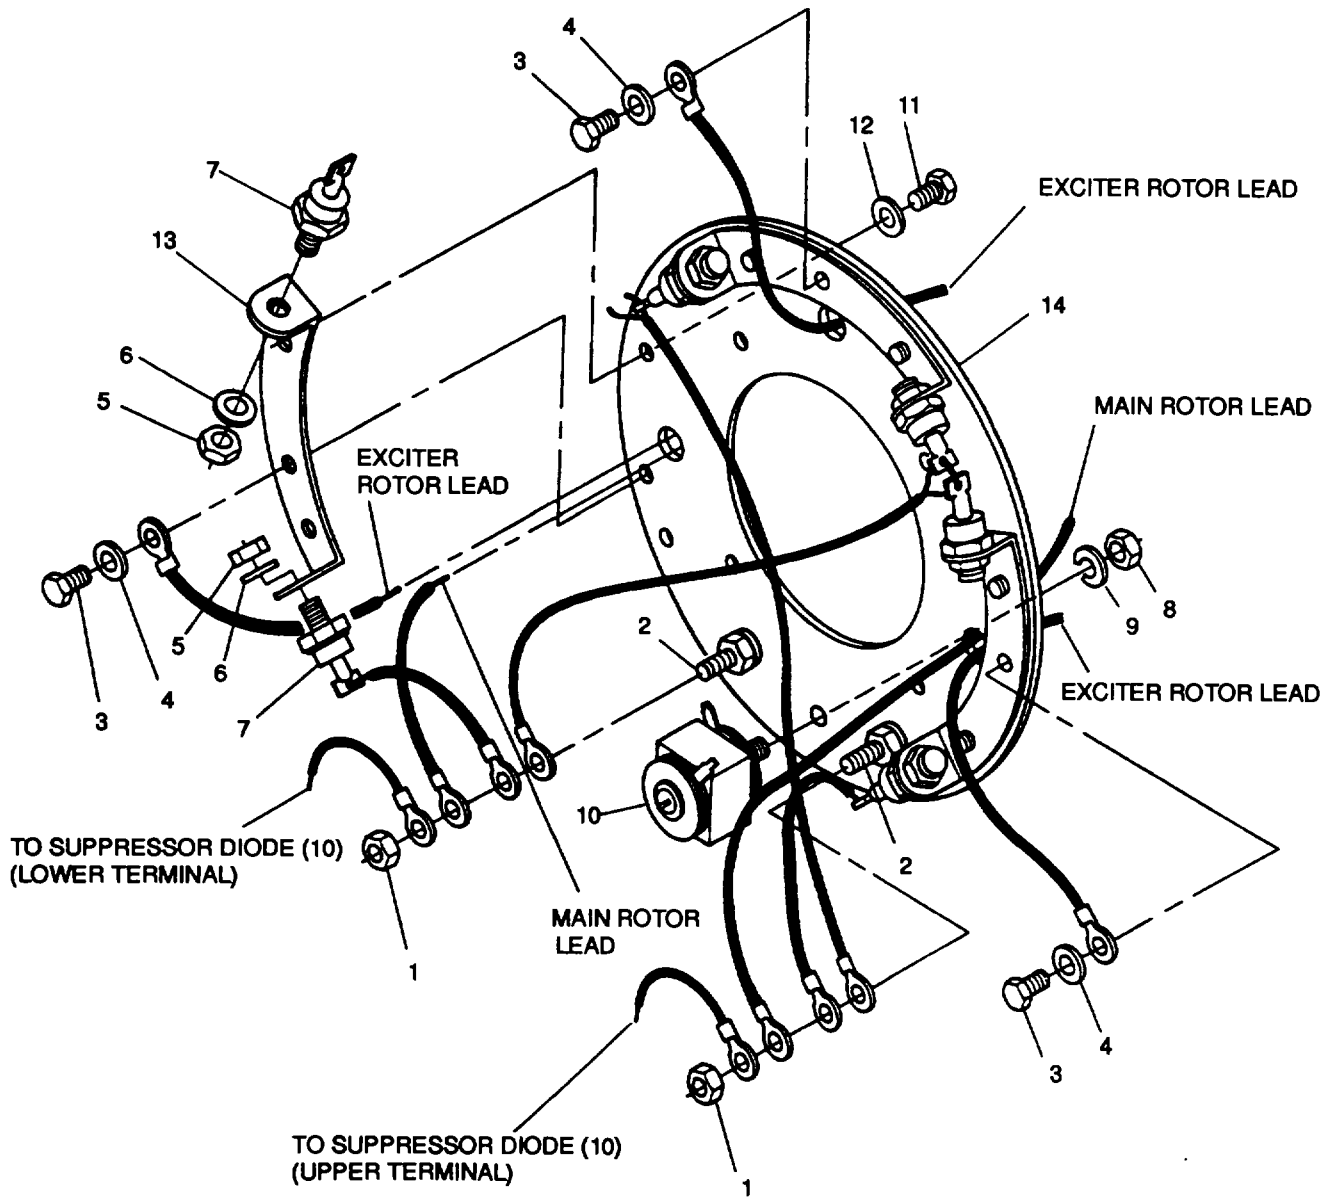
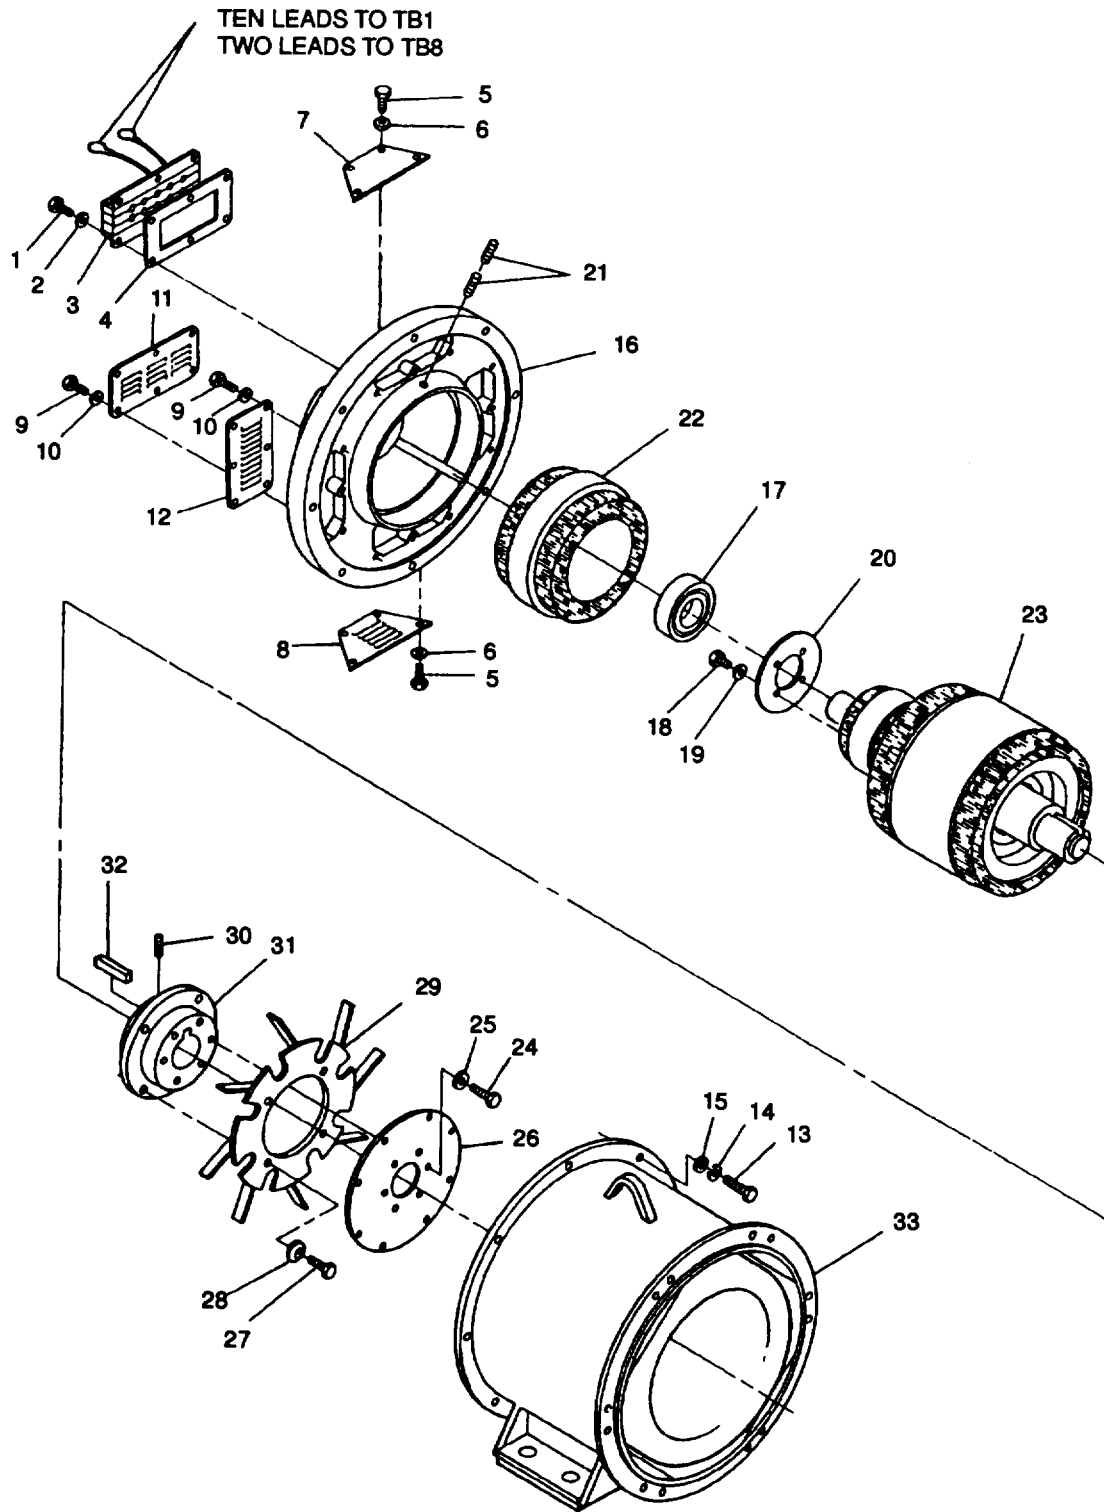

FIGURE 4-16. Rectifier Assembly
FIGURE 4-17. Generator Assembly
- e. Remove nuts (1, FIGURE 4-16) from rotating rectifier terminal bolts (2).
- g. Tag exciter rotor leads and remove bolts (3), washers (4), and exciter rotor leads from rectifier mounting plate assemblies.
- h. Set multimeter for ohms and connect positive lead to one side and negative lead to other side of each diode (7). Record multimeter reading for each diode.
If diode (s) (7) are found to be defective, inspect suppressor diode (10, Figure 4-16) for discoloration or signs of burning. Replace suppressor diode if these conditions exist (Refer to paragraph 4-19.1, Rotating Rectifier Removal).
- k.. Install diode and main rotor leads to rotating rectifier terminal bolts (2) with nuts (1). Remove tags.
- l. Install exciter rotor leads to rectifier mounting plate assemblies with washers (4) and bolts (3). Remove tags.
- e. Unsolder electrical lead from diode (7, FIGURE 4-16) being removed.
- f. Remove nut (5), lockwasher (6), and diode (7) from rotating rectifier assembly through access hole in end bell.
- a. Run bead of thermal-electrical contact compound (Item 9, Appendix C) around base of diode (7, FIGURE 4-16) prior to installing. Do not coat threads.
- b. Insert diode (7) through generator end bell access hole, and install on rotating rectifier plate with lockwasher (6) and nut (5). Torque nut (5) 28 to 30 in-lbs. (3.16 to 3.38 Nm).
- c. Using solder (Item 19, Appendix C) and soldering iron, solder electrical lead to diode (7).
- f. Loosen damp assembly (3, FIGURE 4-17) to allow slippage of generator leads.
- g. Remove bolts (1), lockwashers (2), damp assembly (3), and gasket (4) from end bell (16).
- h. Remove bolts (5), lockwashers (6), and cover plates (7) and (8) from end bell (16).
- i. Remove bolts (9), lockwashers (10), and air intake screens (11) and (12) from end bell (16).
- j. Remove bolts (13), lockwashers (14), and washers (15) securing end bell (16) to generator assembly.
- k. Remove end bell (16) from generator assembly with exciter stator (22) attached.
- l. Using bearing puller, remove bearing (17) from main rotor assembly (23) shaft and discard bearing.
- a. Install bearing (17, FIGURE 4-17) on main rotor assembly (23) shaft. Ensure that bearing is seated squarely against shaft shoulder by applying pressure to inner race only.
- b. Position bearing (17) in end bell (16).
- e. Remove bolts (3, FIGURE 4-16) and lockwashers (4) securing exciter rotor leads (3 places) to rotating rectifier. Tag and remove exciter rotor leads.
- f. Remove nuts (1) from terminal bolts (2), tag and remove main rotor leads and rotating rectifier diode leads.
- g. Remove bolts (18, FIGURE 4-17), lockwashers (19) and rotating rectifier (20) from rotor assembly (23).
- h. Remove nut (8, FIGURE 4-16), lockwasher (9), and suppressor diode (10) from insulating plate (14).
- i. If necessary, remove bolts (11), lockwashers (12), and diode mounting plates (13) from insulating plate (14).
- a. If removed, install diode mounting plates (13, FIGURE 4-16) on insulating plate (14) with bolts (11) and lockwashers (12).
- b. Install suppressor diode (10) on insulating plate (14) with nut (8) and lockwasher (9).
- c. Install rotating rectifier (20, FIGURE 4-17) on rotor assembly (23) with bolts (18) and lockwashers (19).
- d. Connect two main rotor leads and rotating rectifier diode leads to terminal bolts (2, FIGURE 4-16) with nuts (1).
- e. Connect three exciter rotor leads to rotating rectifier with bolts (3) and lockwashers (4).